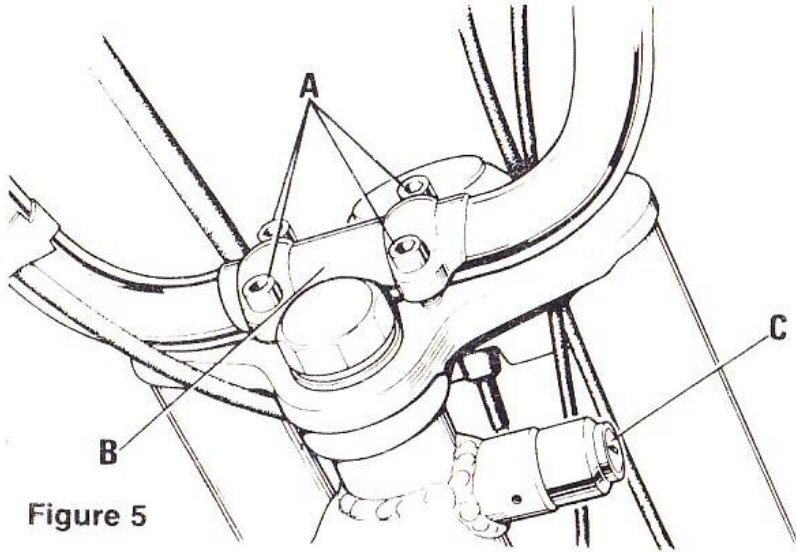

Figure 5
By slackening the four screws (A) on the handlebar clamp (B) in Fig. 5 the handlebar may be moved nearer or further away from the rider as desired. After adjustment do not forget to retighten all four screws.
It is recommended that the steering lock shown as 'C' in Fig. 5 is used whenever your 'Easy-Rider' is parked. To apply, turn fork onto full left lock, push key in, turn clockwise and withdraw the key. This is important not only for your own protection but also to comply with the requirements of many insurers that all reasonable steps be taken to protect the machine from theft. The key must be removed from steering lock before riding machine.